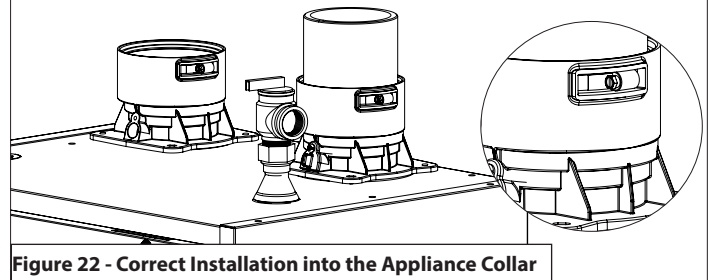

Figure 22 - Correct Installation into the Appliance Collar
**Follow the steps to install exhaust vent pipe into the boiler vent collar. See Figure 22 for additional details.**